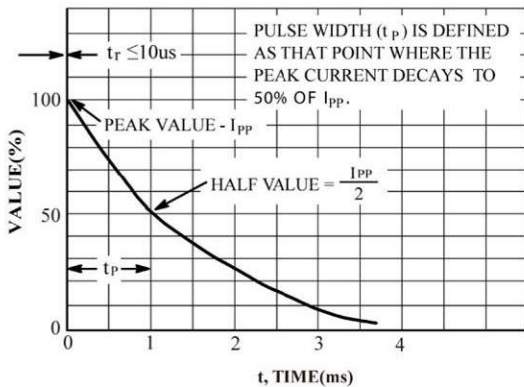
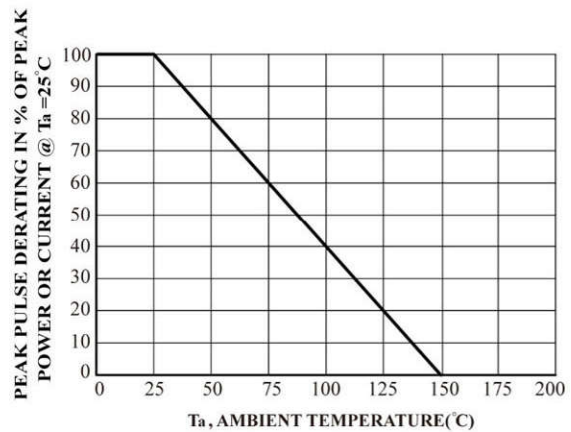

FIG.5 Pulse Waveform
FIG.6 Pulse Derating Curve
NOTE: 1. Non-Repetitive Current Pulse, per FIG 5 and Derated above $T_A=25^\circ\text{C}$ per FIG 6.
6. Surge current waveform per Fig 5 and derate per Fig 6